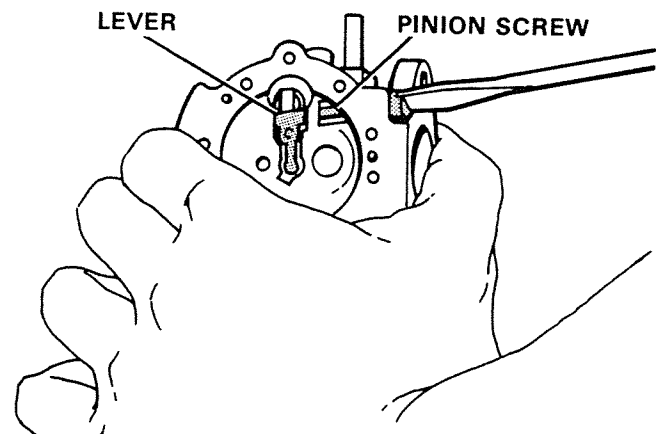

Figure 12. Removing Inlet Valve.
4. Remove inlet control lever pinion screw, lever, tension spring and needle. Figure 12.